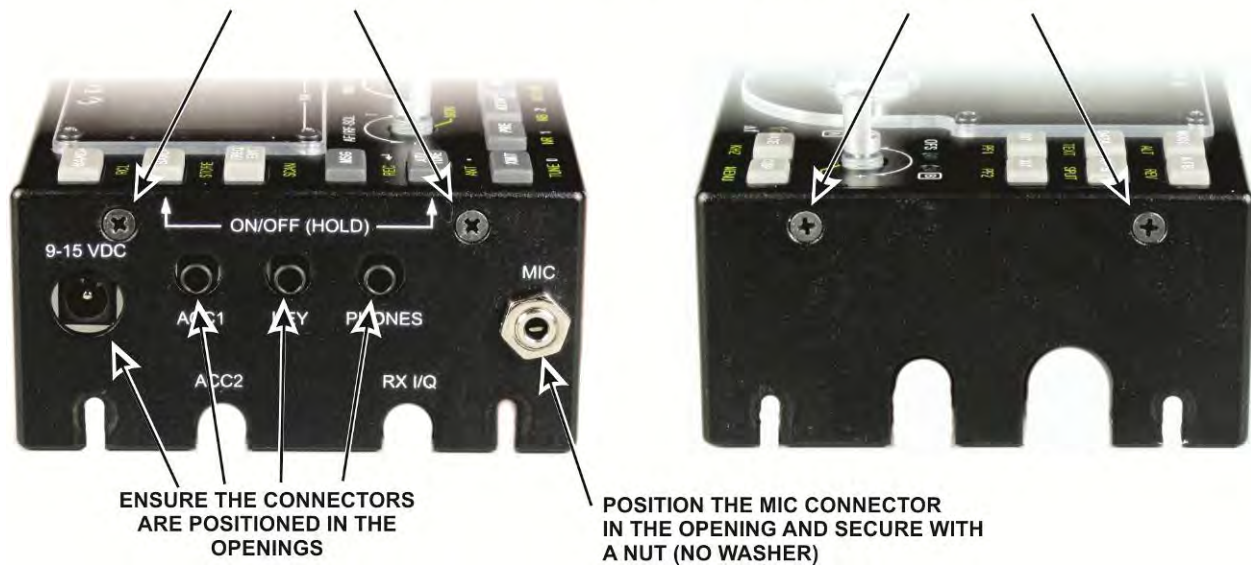

Figure 19. Mounting the Side Panels.
□ Install the side panels as shown in Figure 19. The MIC connector is supplied with the finish nut threaded onto it. Remove the nut and replace it as shown after mounting the side panel.